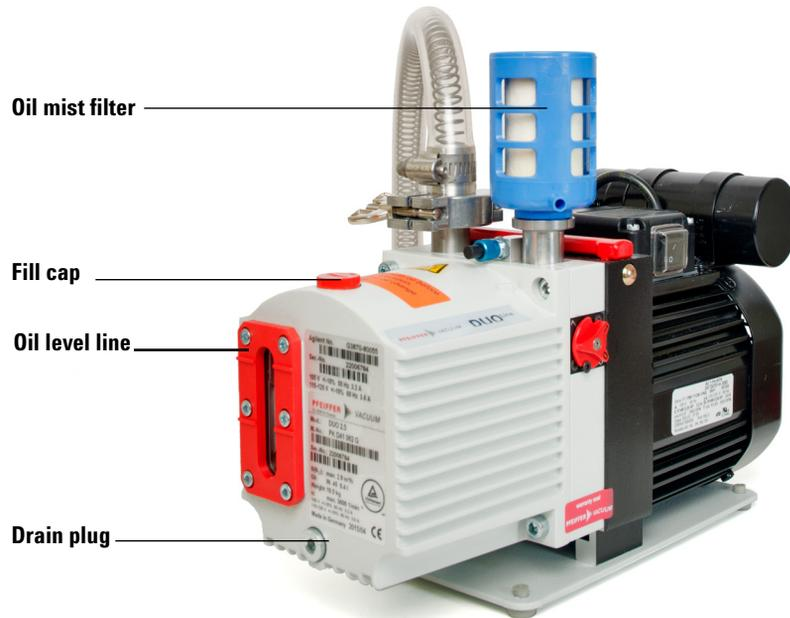

Figure 7 Pfeiffer Duo 2.5 foreline pump
- 1 Examine the oil level window (Figure 7 on page 100).
- 3 Remove the fill cap. See Figure 7 on page 100.